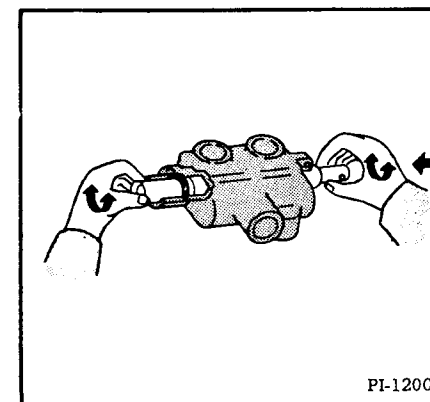

Fig. 17 Pushing Spool Through Seal
(7) Insert the special seal tool into the spool housing from the back of the valve and through the new seal until the shoulder of the special tool touches the valve housing (Fig. 17). The purpose of the special tool is to guide the spool through the new seal without damaging it.
(8) Push the spool into the housing from the front, keeping a firm grip on the special tool in back until you have forced the front of the spool into the housing and the front groove is visible. In pushing the spool through the housing, twisting the spool and special tool will assist the movement (Fig. 17).